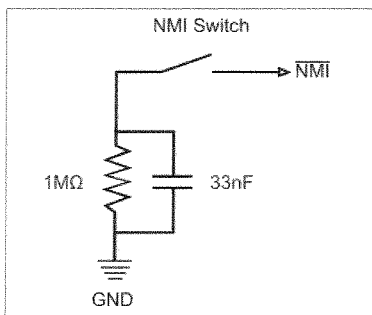

Figure 10 - Debounced NMI button diagram
To achieve the desired debouncing without an unstable multi-vibrator (555) based circuit - after all we aim for simplicity here- you will need an RC circuit right after the GND and before the switch to the NMI pin of the CPU. Follow the instructions on figure 10 for proper wiring. If you are installing on a rubber keyed Spectrum, try to keep the tails on the components to a minimum length. For any other Spectrum,